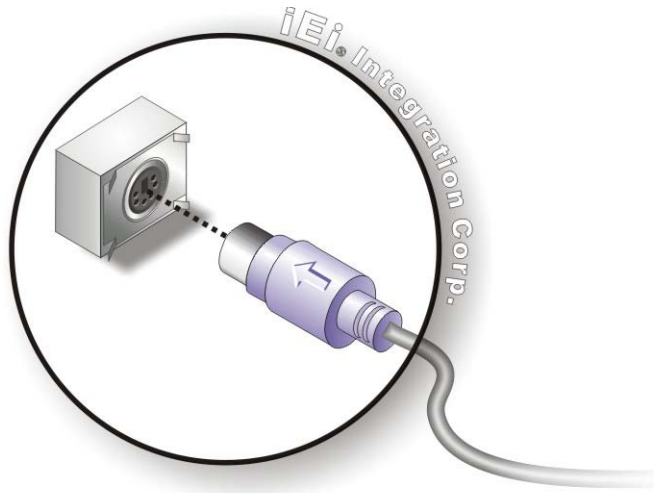

Figure 4-19: PS/2 Keyboard/Mouse Connector
Step 2: Insert the keyboard/mouse connector. Insert a PS/2 keyboard or mouse connector into the PS/2 connector on the external peripheral interface connector. See Figure 4-19.